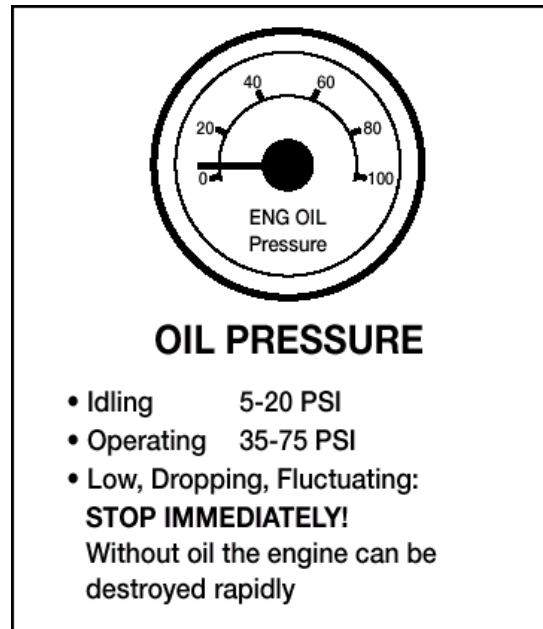

Figure 2.5
- **Oil pressure** – It should come up to normal within seconds after the engine is started. See Figure 2.5